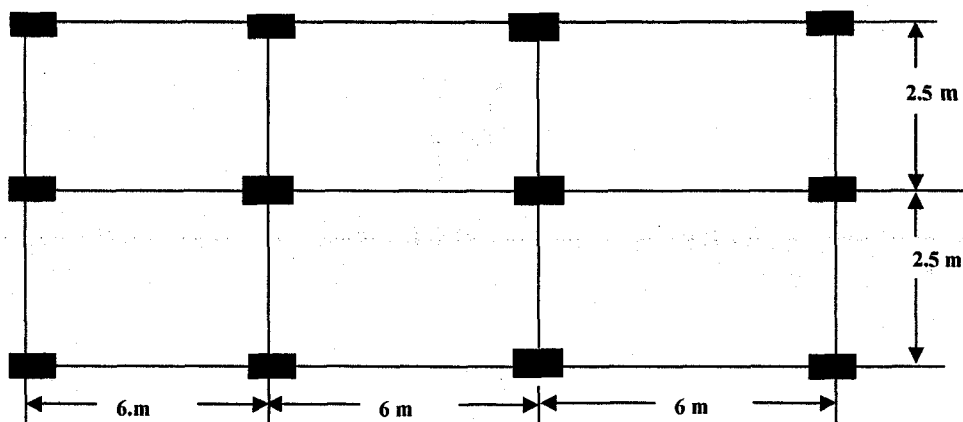

Fig. 2
- 2 Design a three span continuous beam ABCD supporting a 120 mm thick slab as shown in fig.2 Consider Live load 4 kN/m² and Floor finish 1 kN/m².